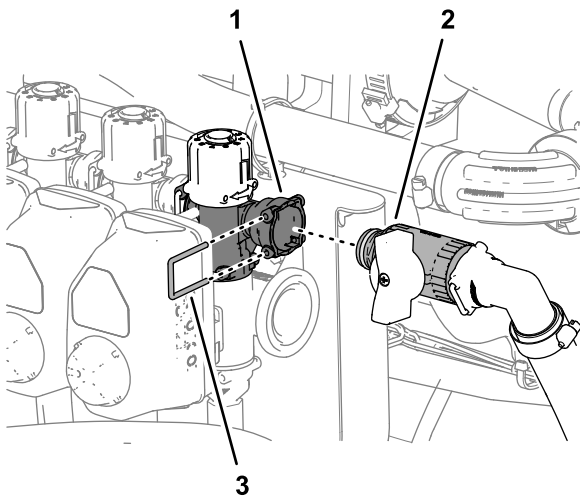

Figure 114
- Assemble the quick-disconnect fitting of the bypass-shutoff valve with the quick disconnect fitting (socket) of the bypass valve (Figure 114).
2. Secure the quick disconnect fittings for the bypass-shutoff valve and the bypass valve with the retainer (Figure 114) that you removed in step 3 of Positioning the Bypass Valves—Machines without the Optional Hand Spray Wand Kit or the Optional Electric Hose Reel Kit (page 34).